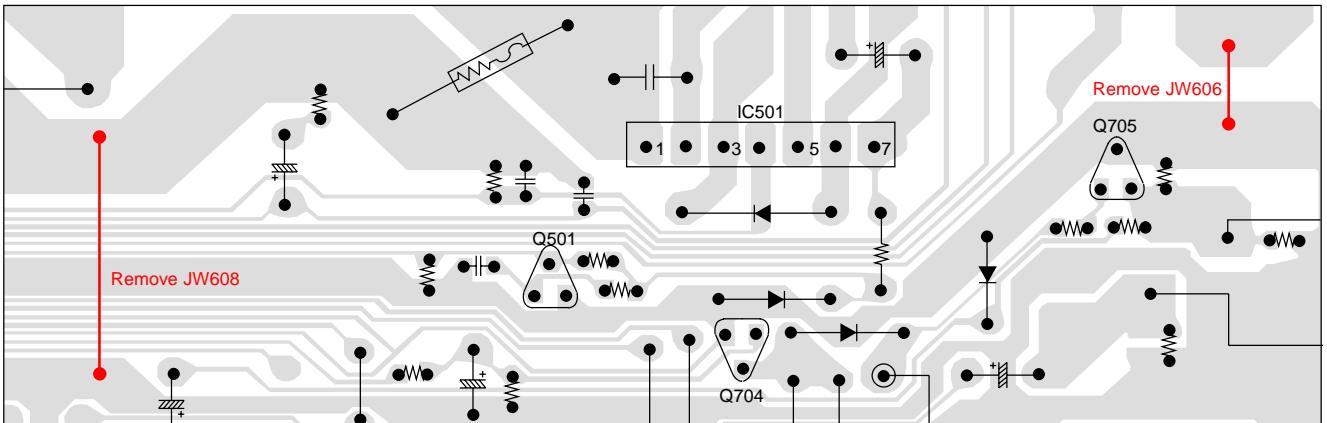

fig.3
2. Remove the JW606 and JW608 which connect the GND traces.(see fig.3)